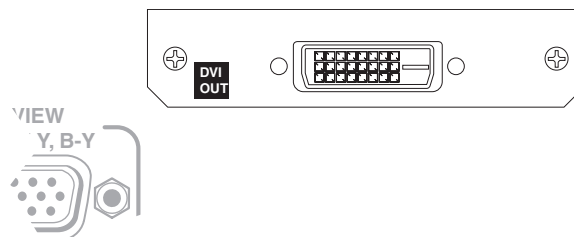

Figure 2-9 — Optional DVI output board
- ⑨a **DVI output connector (optional)** — If the optional DVI output card (figure 2-9) is installed, connect a DVI/HDMI-compatible video display to this DVI connector. This connector outputs the program image only. For an HDMI-compatible display, connect the display through a DVI-to-HDMI adapter, part #26-497-01 (DVI [male] to HDMI [female] adapter) or 26-498-01 (DVI [female] to HDMI [male] adapter).